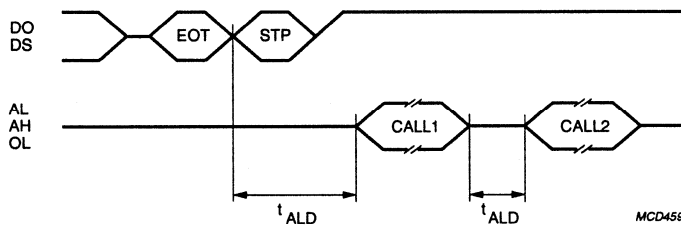

Fig.6 Call alert delay.
When valid calls are received while operating in ON status, the PCF5001T generates call alert cadences. The first four seconds are generated at low-level, a further twelve seconds are generated at high-level. Alert tone generation and LED indication automatically terminate after sixteen seconds unless terminated by pulsing the status request and reset input (SR). Call alert generation is inhibited until completion of message codeword reception and the termination word is sent by the decoder. Call alert generation commences after an alert delay period, t_{ALD} , at the earliest, see Fig.6. Call alert deletion is possible during the alert delay period.